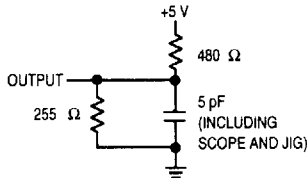

Figure 1B
5. Transition is measured 200 mV from steady-state voltage with load of Figure 1B.
4. Transition is measured 200 mV from steady-state voltage with load of Figure 1B.